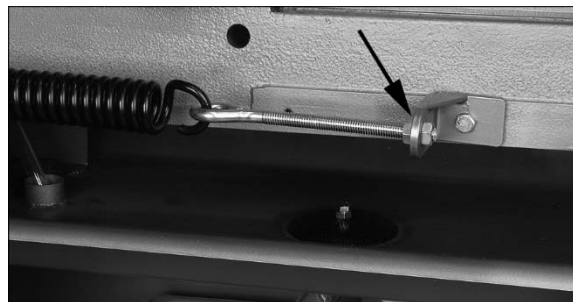

Figure 8-13: feed pressure adjustment
4. If adjustment is needed, loosen one nut and tighten the other (Figure 8-13) on eye bolt, until scale indicates 5 to 6 kg (11-13 lb).